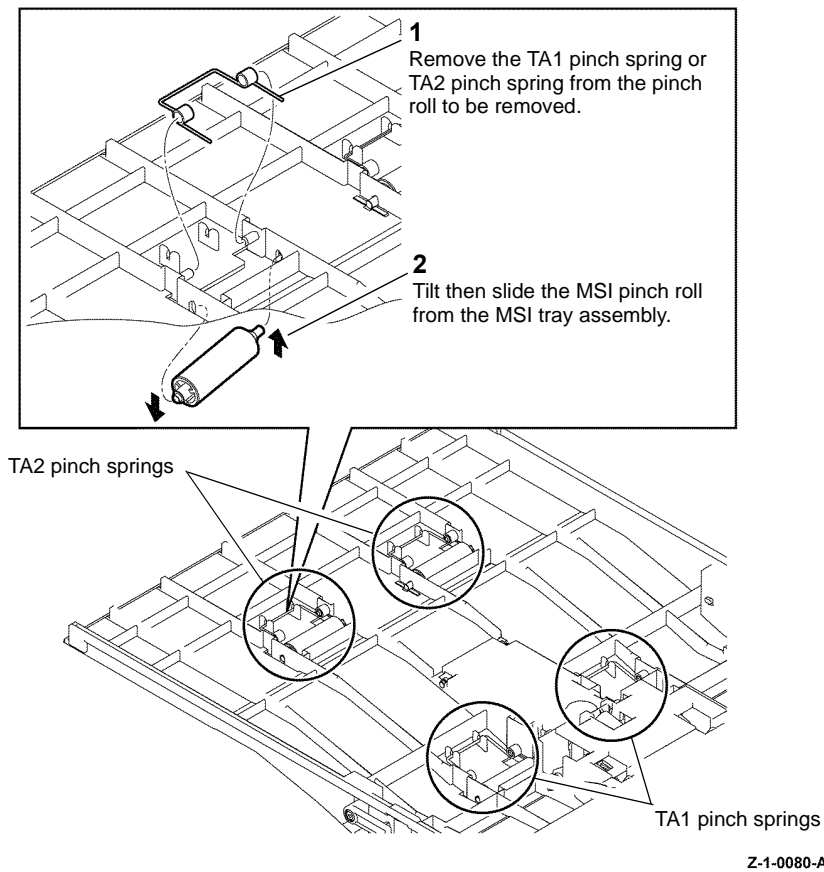

Figure 1 MSI tray pinch roll assembly
2. Remove the MSI pinch rolls, Figure 1.